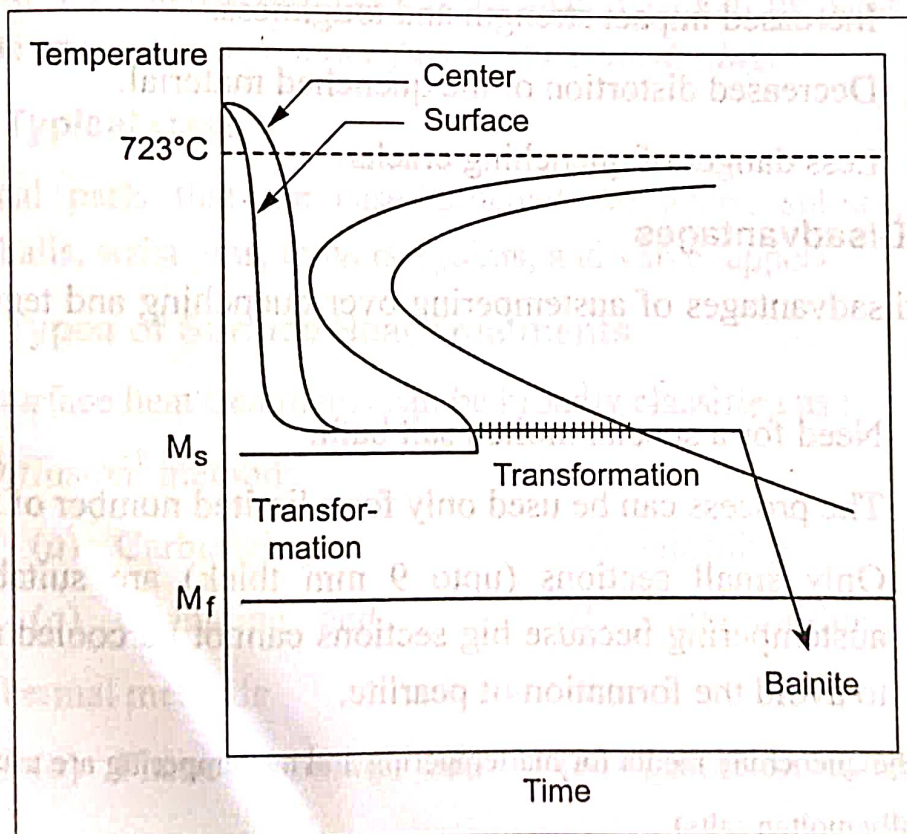

Fig. 2.28. Austempering process
Step 4 : Slow cooling to room temperature in air. Fig.2.28 shows a cooling path for the austempering process.